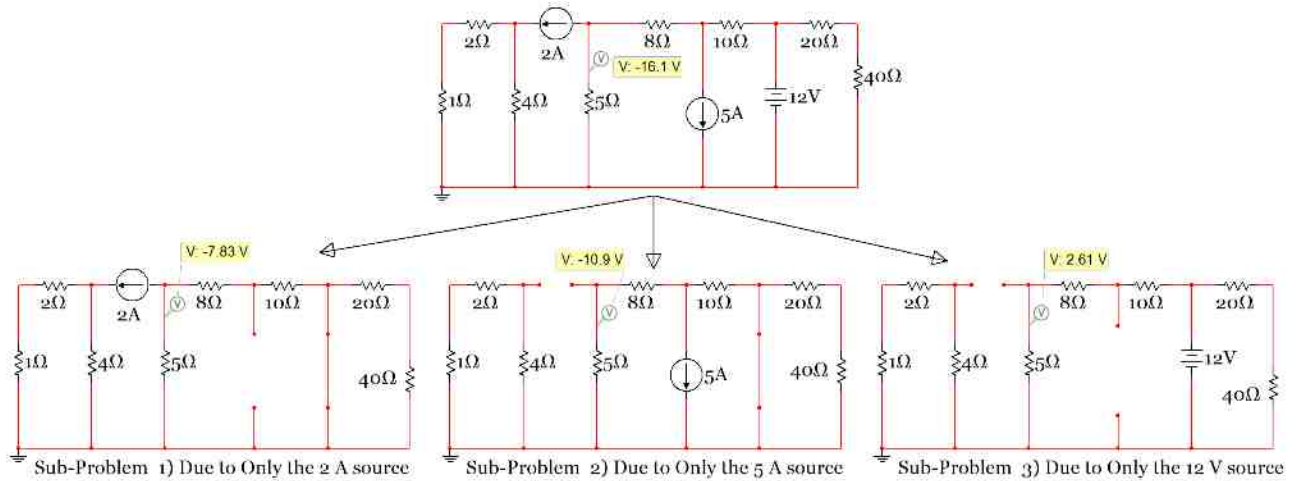

Figure 2.38: Circuit for Example 2.17
The two tricky situations mentioned above can be seen in the circuit in Figure 2.38. Situation 1 (described above) applies to the sub-problems 1 and 2 circuit in Figure 2.38 where the short circuit is in parallel with a resistor network. The  $20 \Omega$  and  $40 \Omega$  resistors are in series and can be added to equal  $60 \Omega$ . That  $60 \Omega$  resistor is in parallel with the short circuit ( $0 \Omega$ ). As stated previously the end result will be the short circuit remaining and the  $20 \Omega$  and  $40 \Omega$  resistors being shorted out (as shown in Figure 2.40).
Situation 2 (described above) applies to the sub-problem 2 and 3 circuit in Figure 2.38 where the open circuit is in series with a resistor network. The network containing the  $1 \Omega$ ,  $2 \Omega$ , and  $4 \Omega$  resistors are in series with the open circuit so these resistors will have no effect on the results because no current will
Since there are 3 independent sources in this circuit it requires 3 sub-problems when using the superposition solving technique. First,  $V_{5\Omega}$  will be solved Due to Only the 2 A source (bottom-left circuit in Figure 2.38). Notice how the 20 Ω and 40 Ω resistors are “shorted out” and the two wires from the 5 A source are removed. The 1 Ω and 2 Ω resistors are in series so they are added together and the 8 Ω and 10 Ω resistors are in series so they are also added together. **By making these simplifications the number of nodes is reduced from 4 to 2 (not counting the reference node).** These are allowable simplifications since the only voltage we are solving for is the voltage across the 5 Ω resistor and it is not involved in the simplification.
Next,  $V_{5\Omega}$  will be solved Due to Only the 5 A source (bottom-middle circuit in Figure 2.38). The  $20 \Omega$  and  $40 \Omega$  resistors are removed due to “situation 1” described previously and the network containing the  $1 \Omega$ ,  $2 \Omega$ , and  $4 \Omega$  resistors are removed from the circuit due to “situation 2” described previously. After redrawing the circuit, it is also a Nodal Matrix problem with a  $2 \times 2$  A matrix as shown below.
Finally,  $V_{5\Omega}$  will be solved Due to Only the 12 V source (bottom-right circuit in Figure 2.38). Again, the network containing the  $1 \Omega$ ,  $2 \Omega$ , and  $4 \Omega$  resistors are removed from the circuit due to “situation 2” described previously. After redrawing the circuit, it is shown to be a simple 2 loop Mesh Matrix problem.
- $V_{5\Omega} = V_{5\Omega_1} + V_{5\Omega_2} + V_{5\Omega_3} = -7.826 \text{ V} - 10.87 \text{ V} + 2.6087 \text{ V} = \underline{-16.088 \text{ V}}$  (Matches the value in Figure 2.38)